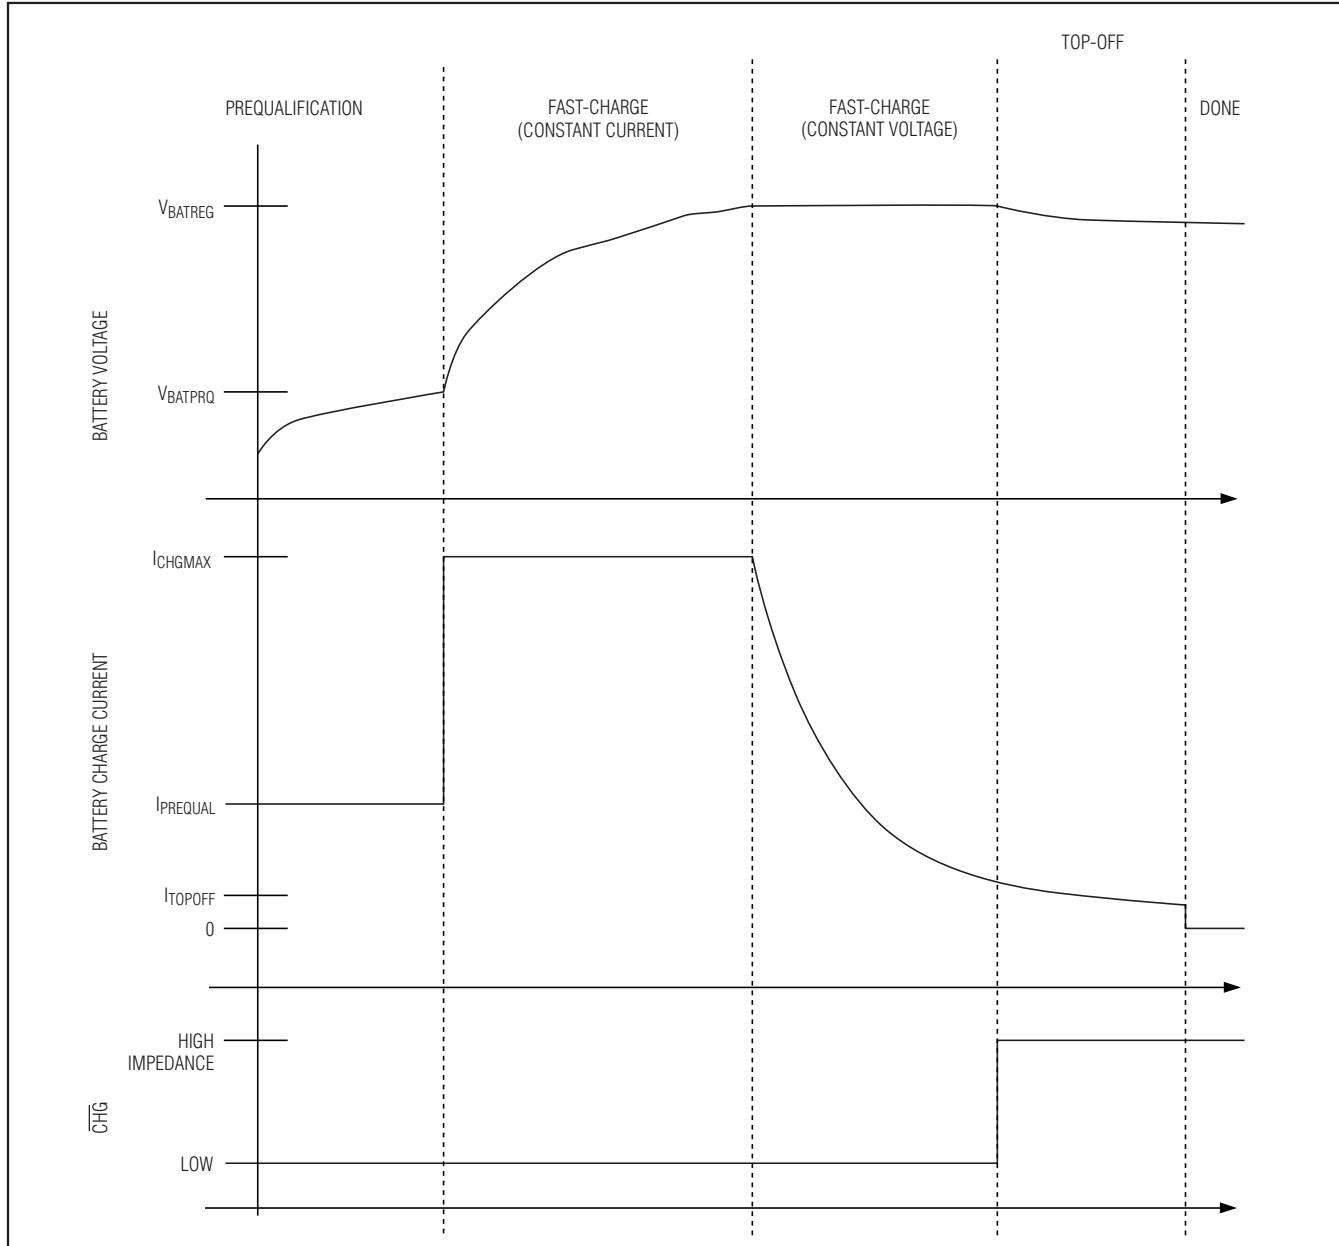
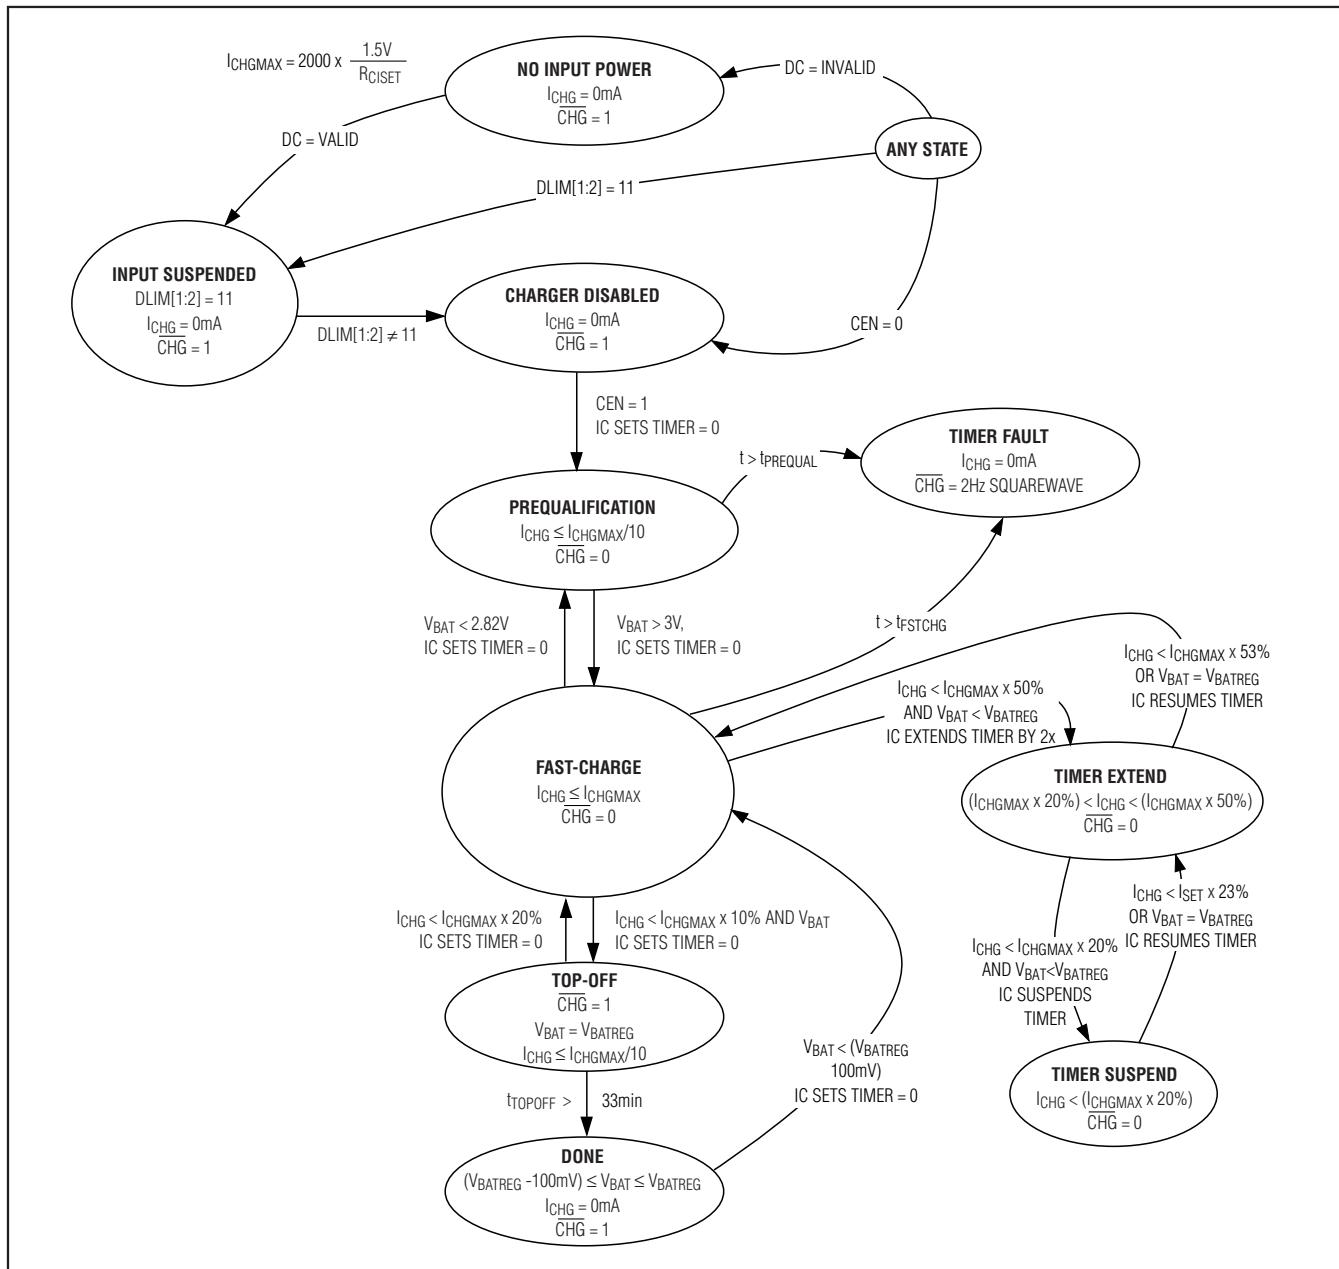

Figure 2. Li+/Li-Poly Charge Profile
Figure 3. Li+/Li-Poly Charger State Diagram
Figure 2 shows the typical Li+/Li-Poly charge profile for the MAX8819A, and Figure 3 shows the battery charger state diagram.
- The battery charger stops charging in done mode as shown in Figures 2 and 3.
CHG is an open-drain, active-low output that indicates charger status. As shown in Figures 2 and 3, CHG is low when the charger is in its prequalification or fast-charge states. When a timer count is exceeded in either state, CHG indicates the fault by blinking at a 2Hz rate and remains in that state until the charger is reset by CEN going low, removal of DC or setting DLIM[1:2] = 11.
As shown in Figure 3, a fault timer prevents the battery from charging indefinitely. In prequalification mode, the charge time is internally fixed to 33min.
While in the constant-current fast-charge mode (Figure 2), if the MAX8819_ reduces the battery charge current due to its internal die temperature or large system loads, it slows down the charge timer. This feature eliminates
nuisance charge timer faults. When the battery charge current is between 100% and 50% of its programmed fast-charge level, the fast-charge timer runs at full speed. When the battery charge current is between 50% and 20% programmed fast-charge level, the fast-charge timer is slowed by 2x. Similarly, when the battery charge current is below 20% of the programmed fast-charge level, the fast-charge timer is paused. The fast-charge timer is not slowed or paused when the charger is in the constant voltage portion of its fast-charge mode (Figure 2) where the charge current reduces normally.